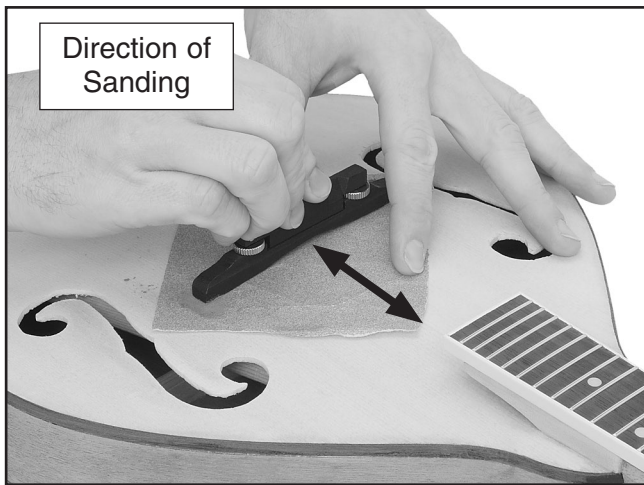

Figure 37. Fitting the bridge to the top.
1. Place the bridge on a piece of sandpaper, grit side up, 13.8" from the nut as shown in **Figure 37**.